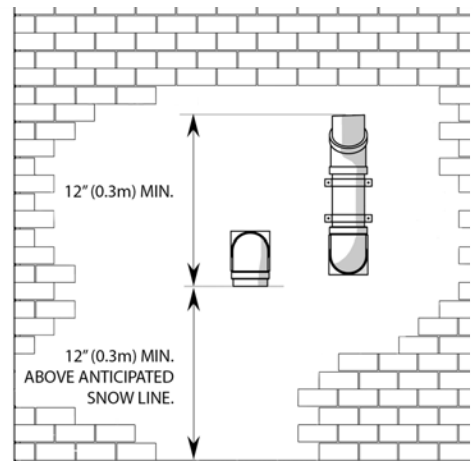
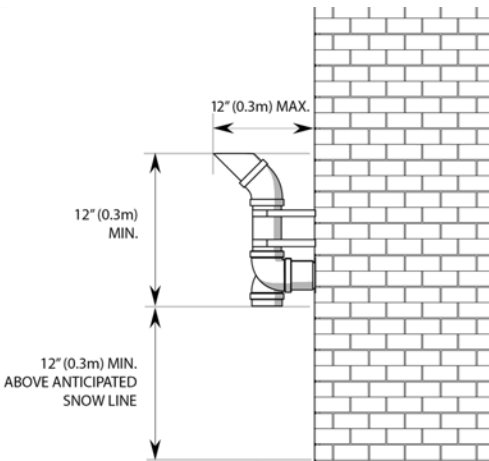
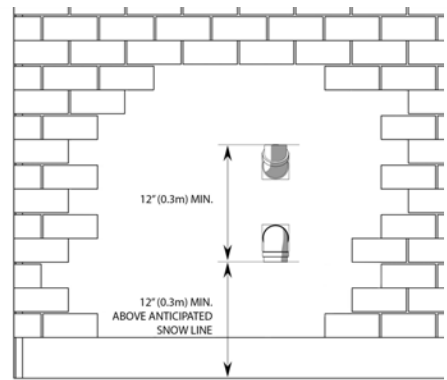
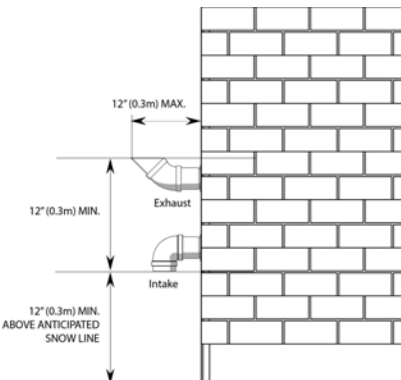

Figure 20 Vent termination clearance--horizontal perforations
Figure 21 Vent termination clearances--horizontal perforations, side view
Figure 22 Vent termination clearance--vertical alignment
Figure 23 Vent termination clearances--vertical alignment, side view
- » (Optionally) Raise the elevation of exhaust termination "periscope style" after passing through the wall, to gain the required clearance as shown in Figure 20 and Figure 21.
- » Use a 45° elbow on the exhaust termination to launch the plume up and off the sidewall (for protection of wall). A short piece of venting cut at 45° gives a horizontal termination protected from wind loads (see Figure 21, and Figure 23).
**Important!:** Maintain at least the minimum separation of exhaust vent termination from boiler intake air as illustrated in Figure 20, Figure 21, Figure 22 and Figure 23. Failure to do so can result in a dangerous situation where exhaust gasses are re-ingested with combustion air. Damage to the boiler can result from a failure to maintain these separations. Third party vent termination kits and concentric wall penetration kits that do not maintain these minimum separations must **not** be used. Improper installation will void the warranty.